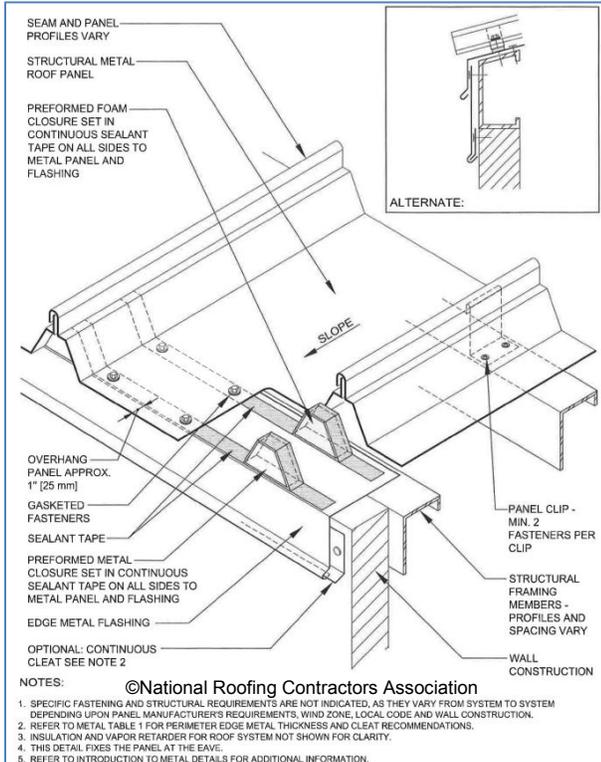

Figure 10-60
- Figure 10-60, "L"-Type Downslope